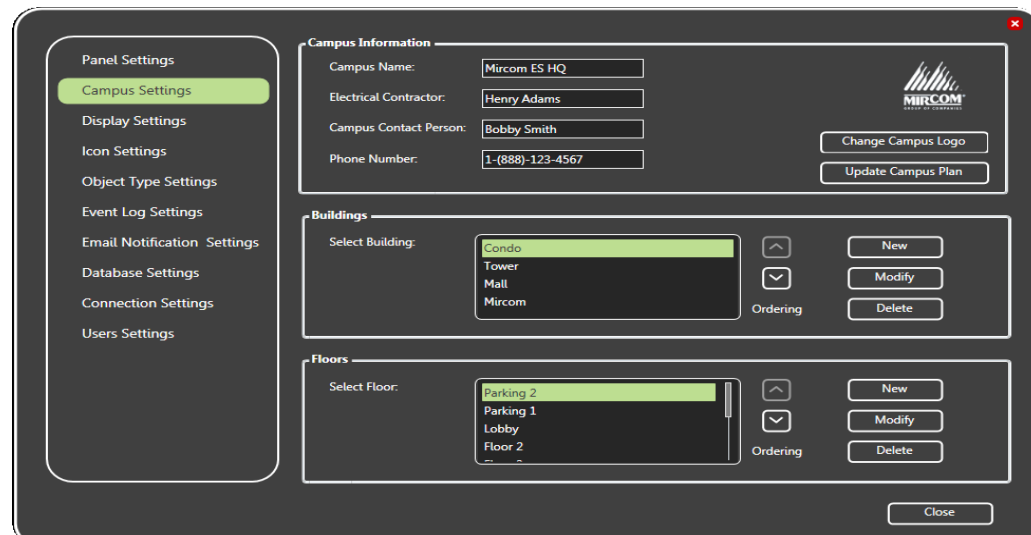

Figure 32 Campus Settings
1. Click **Update Campus Plan** in the Campus Settings window (Figure 32 on page 55).
1. Click **Change Campus Logo** in the Campus Settings window (Figure 32 on page 55).
The Campus Settings window appears (see Figure 32 on page 55).